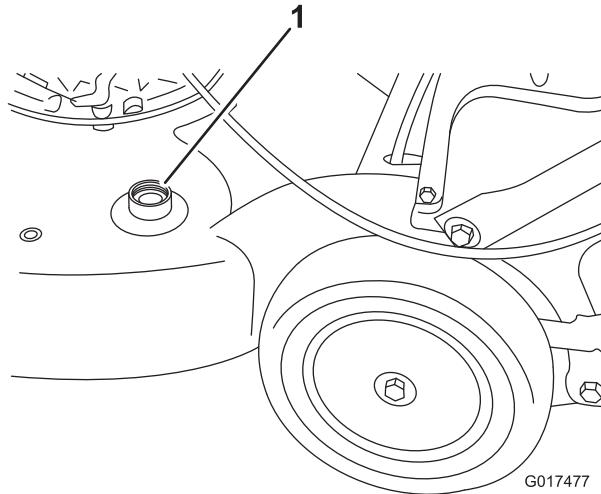

Figure 44
- Attach a garden hose that is connected to a water supply to the washout port on the machine (Figure 44).